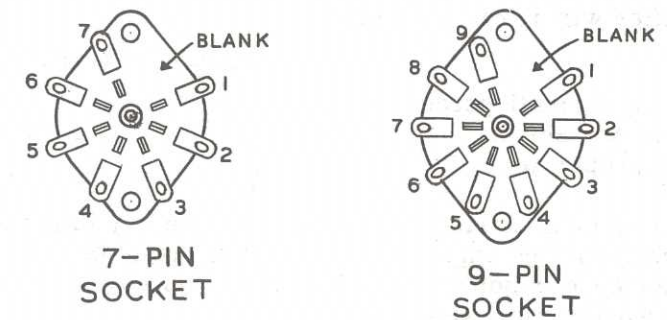

Figure 7
- () Mount a 9-pin wafer tube socket at D. Be sure to observe lug orientation shown with the blank space (between lugs 1 and 9) to the right away from the end of the chassis. See Figure 7. Secure socket with two 3-48 screws and nuts. Lockwashers are not required with 3-48 hardware.